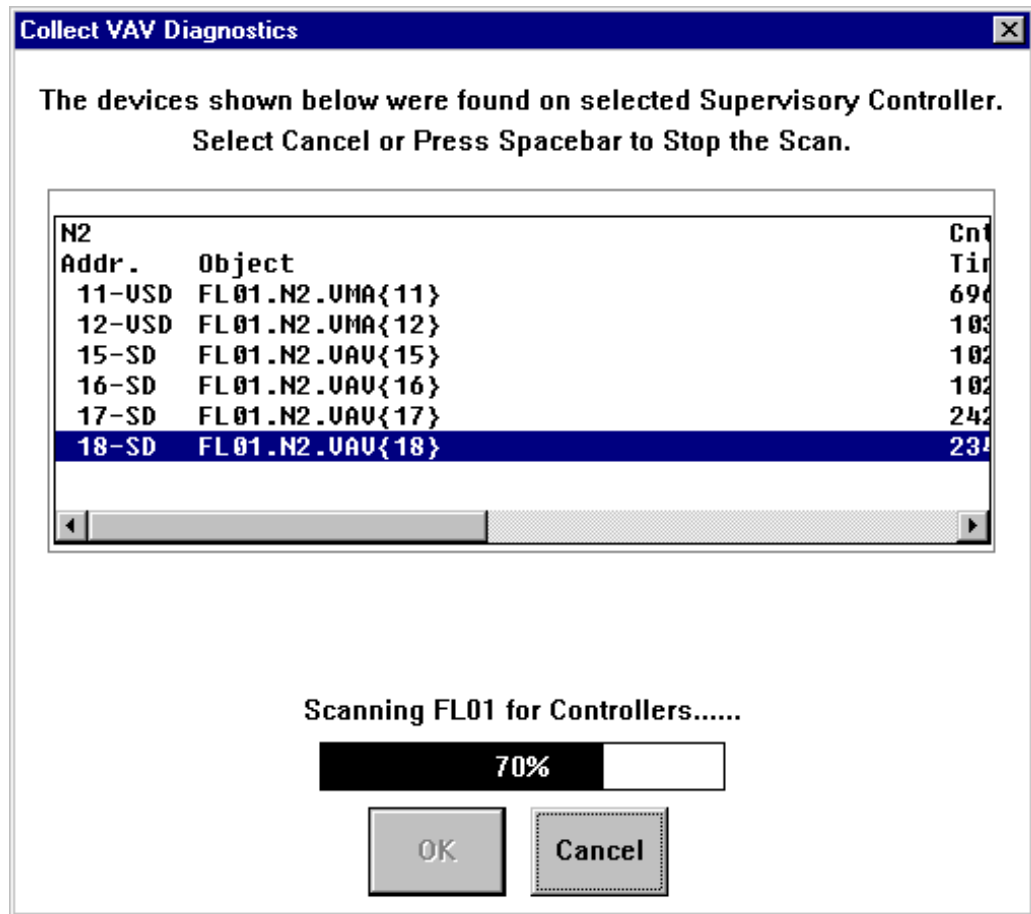

Figure 17-23: Collect VAV Diagnostics Scan Dialog Box
- Click OK. The dialog box shown in Figure 17-23 appears while HVAC PRO software scans the NCU for all VMA1400 Series devices and all VAV controllers with diagnostics.